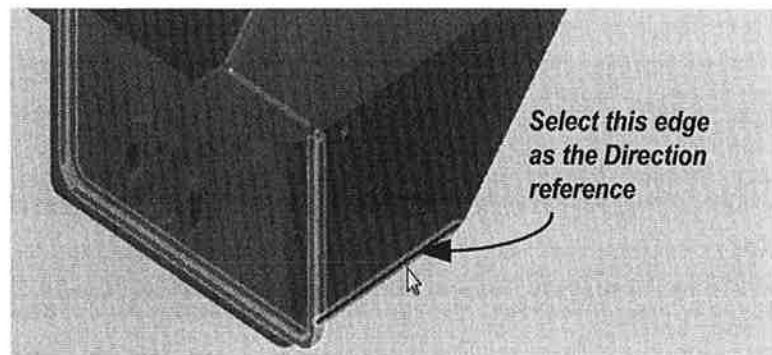

Figure 13-14
6. In the RECTANGULAR PATTERN palette, activate the *Directions* field by clicking **Select**. Select the edge shown in Figure 13-14 as the direction reference.